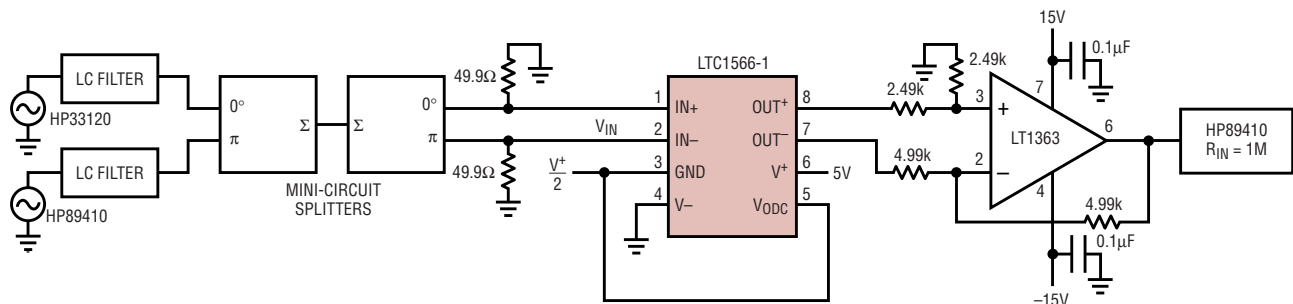
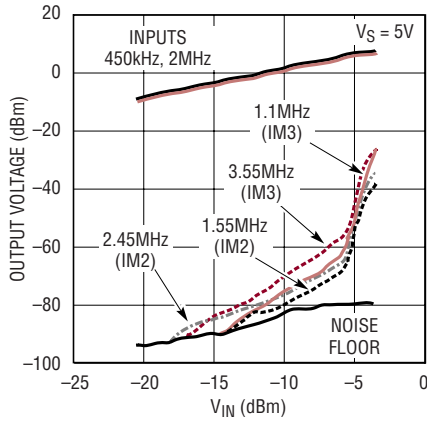

Figure 6. Test circuit for intermodulation distortion
Figure 7. 450kHz/2MHz intermodulation, $V_S = 5V$
products (IM3), however, may fall within the passband or in the vicinity of the band edge of the circuit and their presence can limit system performance. Figure 6 shows the actual test circuit with 455kHz and 2MHz tones simultaneously applied at the filter’s differential inputs. Figure 7 shows the measured IM3 products ($2 \times 2\text{MHz} - 455\text{kHz} = 3.55\text{MHz}$, and 2
As shown in Figure 7, the excellent linearity of the LTC1566-1 provides an intermodulation ratio (IM) of better than 70dB for output levels of -3Bm or lower. *The IM performance of the LTC1566-1 is better than some commercially available passive LC filter modules.*